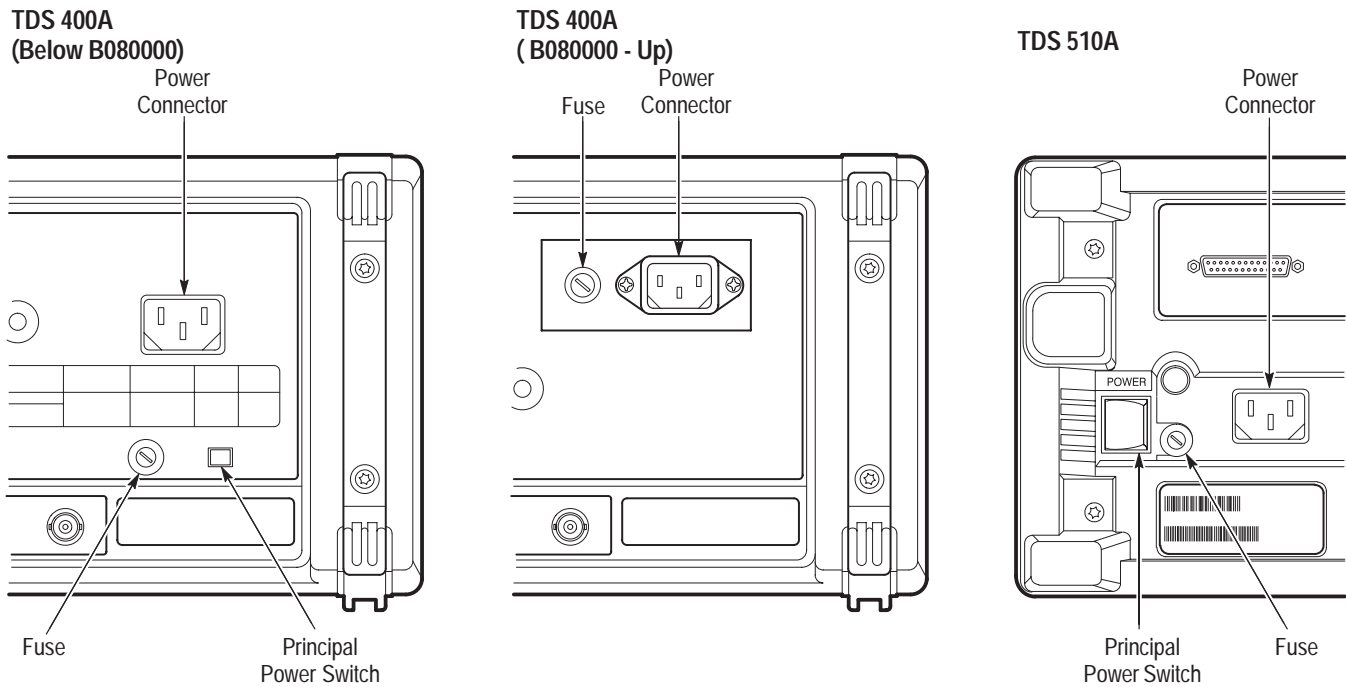

Figure 1-1: Rear Panel Controls Used in Start Up
3. Check the fuse to be sure it is the proper type and rating (see Figure 1-1 for the fuse location). You can use either of two fuses (see Table 1-1 for the fuse data).
5. Connect the proper power cord from the rear-panel power connector (see Figure 1-1 for the connector location) to the power system.
**Power On** 1. Check that the rear-panel principal power switch is on (see Figure 1-1 for the location of the switch ). The principal power switch controls all AC power to the instrument.